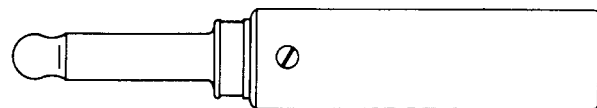

Fig. 1 — 1D or E Plug
2.01 1D and E: The 1D and E plugs (Fig. 1) have single conductors and are equipped with long shells which cover the cord ends of the plug bodies to provide additional insulation. The plugs are used with the 99- or similar-type jacks and replace the 1B and 1C plugs.